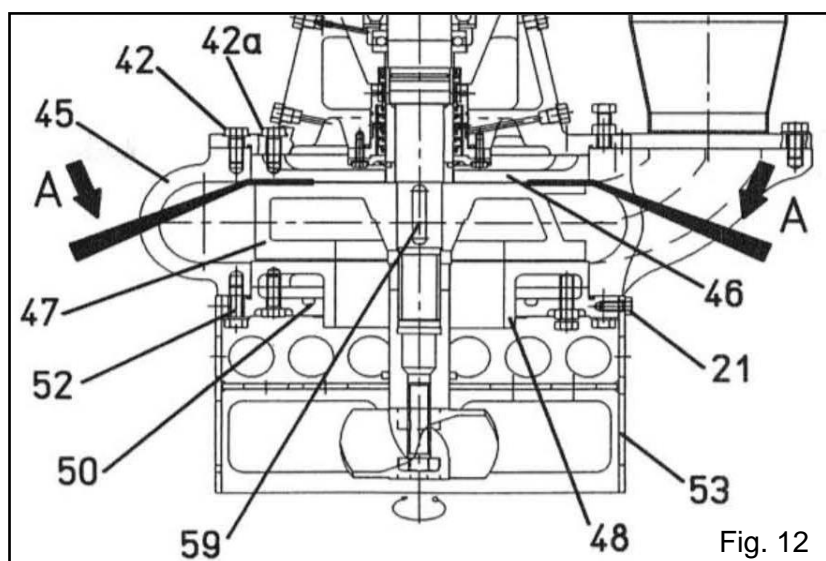

Fig. 12
- Remove the filter **53 (Fig. 12)** by unscrewing the screws **21**.
- Unscrew the cutter **54** by hitting it smartly in an anticlockwise direction as shown in **Fig. 13**; make sure the impeller **47 (Fig. 12)** is blocked with an iron rod.
- Extract the flange on the suction side **50 (Fig. 12)** after having removed the screws **52**. With the flange pos. **50** the lower wear plate **48** also will come down.
- Remove the casing **45 (Fig. 12)** after having removed the screws **42**.
- Extract the impeller **47** using two levers "A" (**Fig. 12**). If it sticks use an extractor, taking care not to damage the threaded part of the motor shaft.
- Remove the key **59** and slacken the screws **42a (Fig. 12)** to let the upper wear plate **46** coming down.